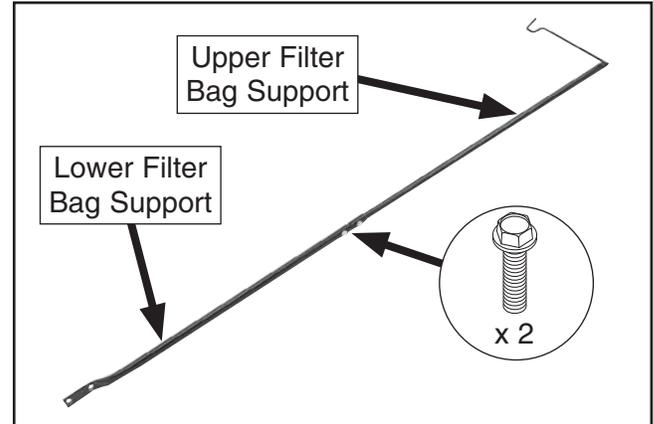

Figure 10. Filter bag support assembly.
5. Attach upper filter bag support to lower filter bag support using (2) $\frac{1}{4}$ "-20 x $\frac{1}{2}$ " flange bolts (see **Figure 10**).